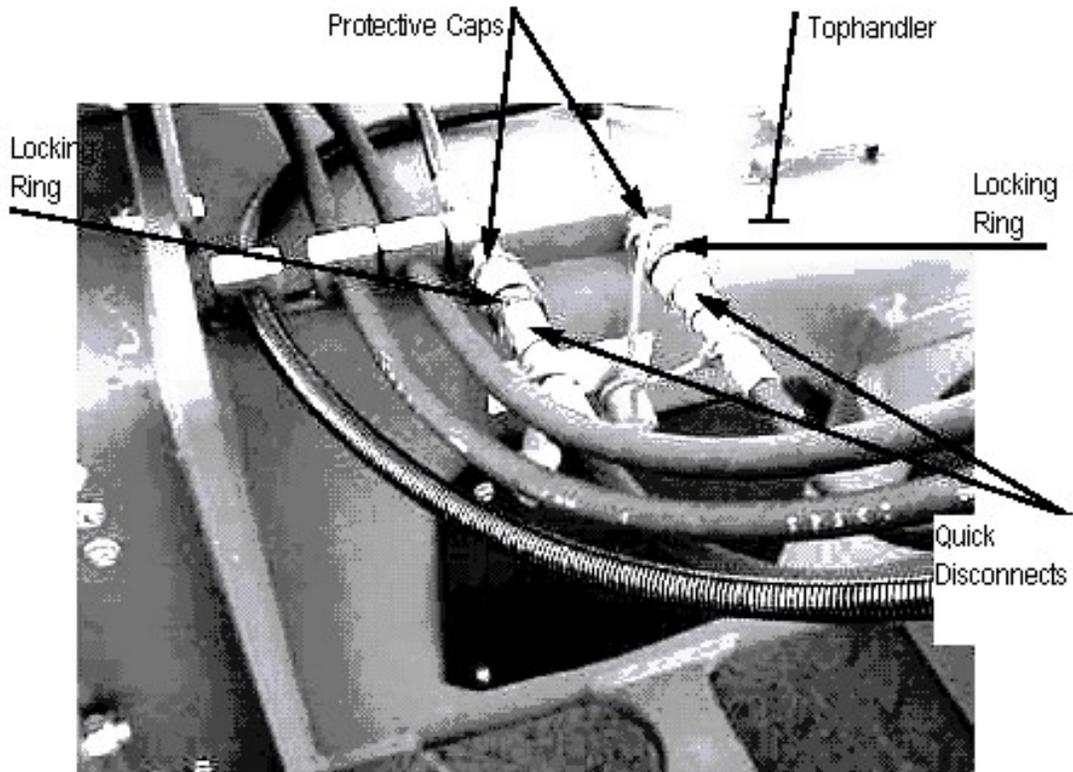

Figure 3-174
4. Release locking rings to disconnect two hydraulic hose quick disconnects, located on top left side of the tophandler and install protective caps on connectors (see Figure 3-174).